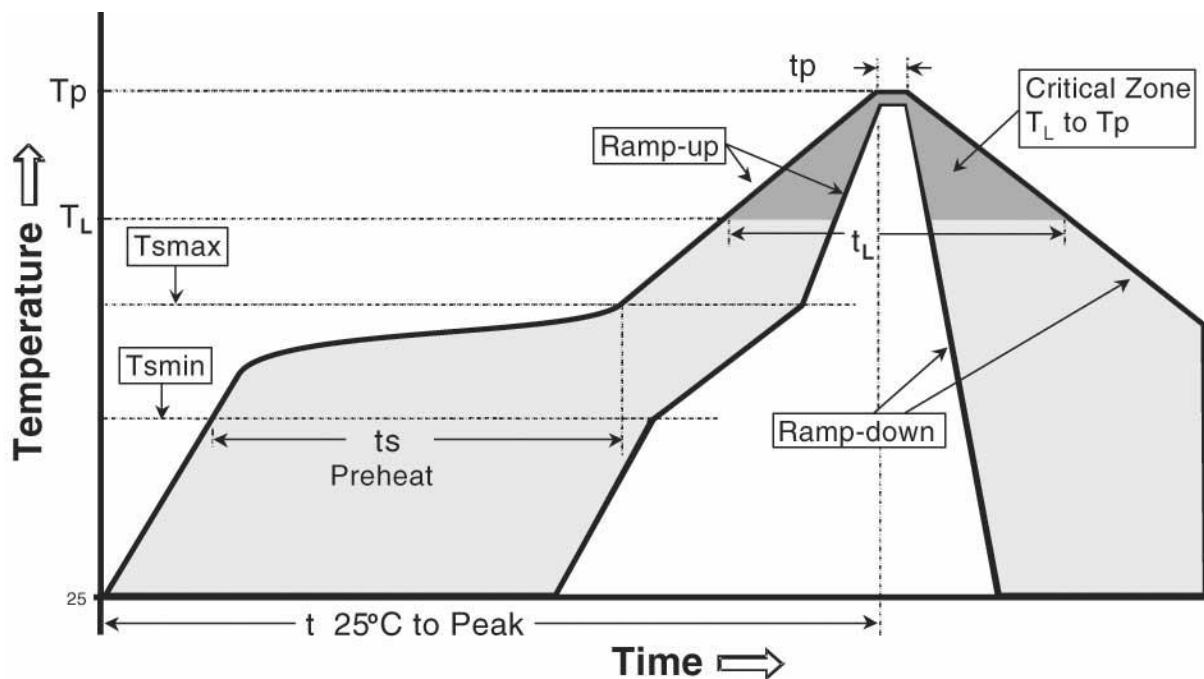

Figure 7 – Temperature profile.
2. Perform a reflow process according to the temperature profile detailed in Table 3, Figure 7 on page 12.